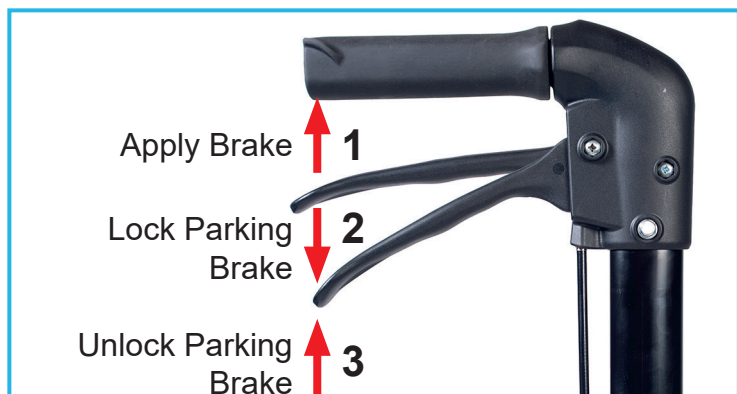

Figure 9: Operating the Brakes
1. Refer to Figure 9. Squeeze the brake lever up to apply the brake. Let go of the lever to release the brake.
2. Refer to Figure 9. Push the brake lever down until it locks into position.
3. Refer to Figure 9. Pull the brake lever up. An audible click will be heard as the brake is released.